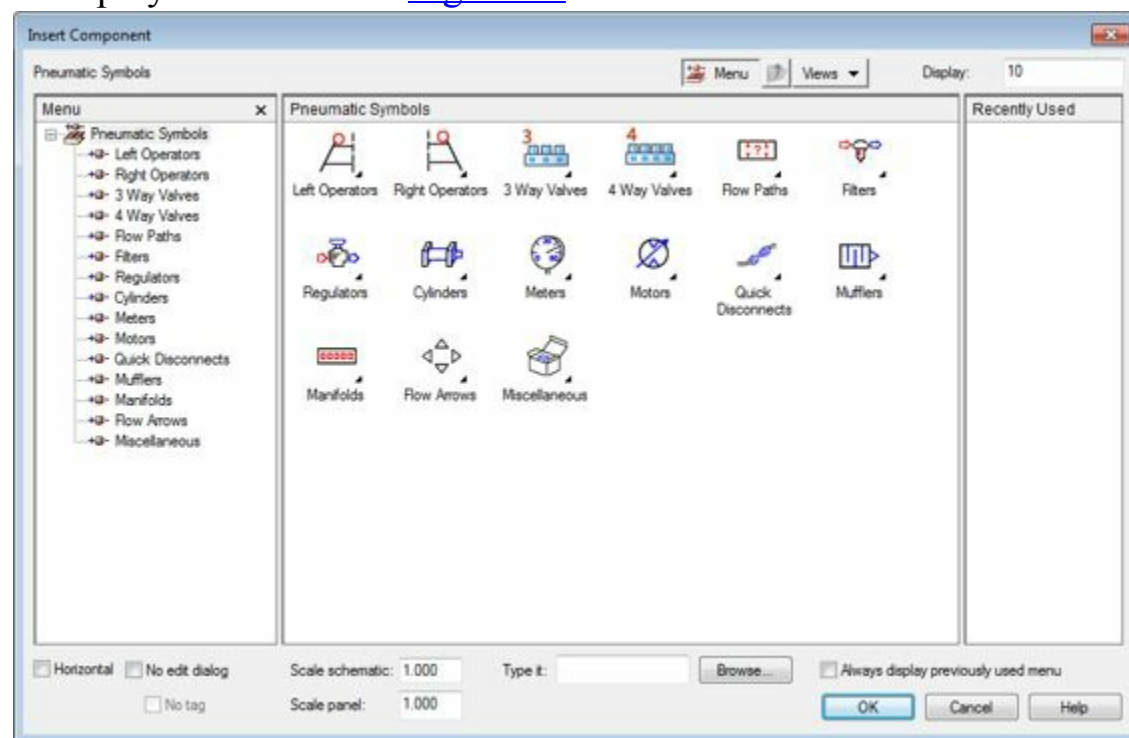

Figure-36. Insert Component dialog box for pneumatic components
- Click on the **Insert Pneumatic Components** button . The **Insert Component** dialog box will be displayed as shown in Figure-36.